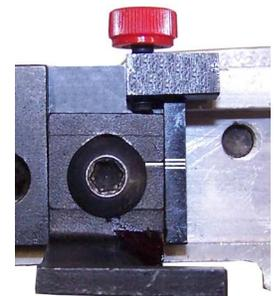

Fig. 2
3. Set the blade depth to selected graduation mark on the blade for conductor size being shaved (Fig.2). The low mark is for 1000 mcm, center mark is for 400, 600, and 700 mcm and the high mark is for 1/0 conductors. The tool produces a tapered shape at the insulation shield end. The table at the bottom of the page will give the approximate taper lengths at the insulation shield end.